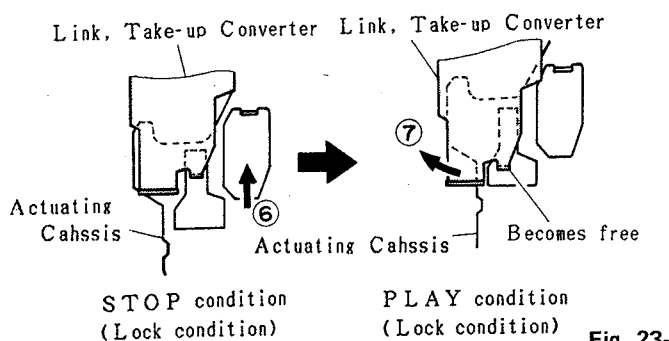

Fig. 23-3
- 3) By the movement stated in Step 2) right, the Actuating Chassis sets the Link, Take-up Converter free (See Fig. 23-3). That is, the Link, Take-up Converter is moved in the direction of arrow ⑦ by a tension of the T-spring, Take-up, engaging the interlinked Take-up Ass'y with the Gear, Reel Platform L. Then, the Gear, Reel Platform L starts rotating to set up the reverse mode.